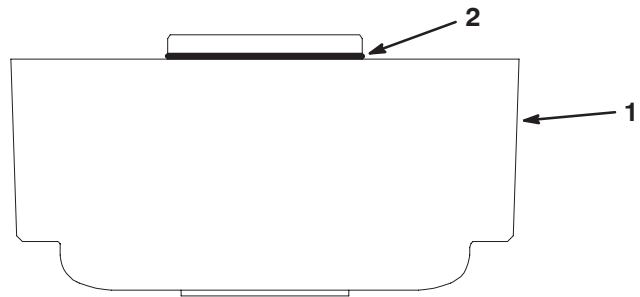

Figure 5
5. On Roller Brush Kit Model 03663 only, install the yellow O-ring onto the roller brush housing (Fig. 5).